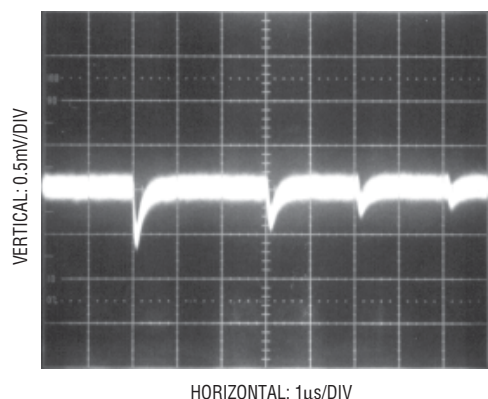

Figure 15. Adequate Reference Settling
1. Transients on the reference inputs caused by the capacitive switching currents must settle completely during each bit test (each 4 ACLK cycles). Figures 15 and 16 show examples of both adequate and poor settling. Using a slower ACLK will allow more time for the reference to settle. However, even at the maximum ACLK rate of 2MHz most references and op amps can be made to settle within the $2\mu\text{s}$ bit time. For example an LT1019 used in the shunt mode with a $10\mu\text{F}$ bypass capacitor will settle adequately. To minimize power an LT1004-2.5 can be used with a $10\mu\text{F}$ bypass capacitor. For lower value references the LT1004-1.2 with a $1\mu\text{F}$ bypass capacitor can be used.